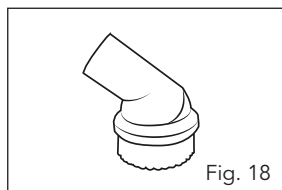

Fig. 18
The upholstery tool (22) is specially designed for vacuuming solids on upholstery and carpets (fig. 18).